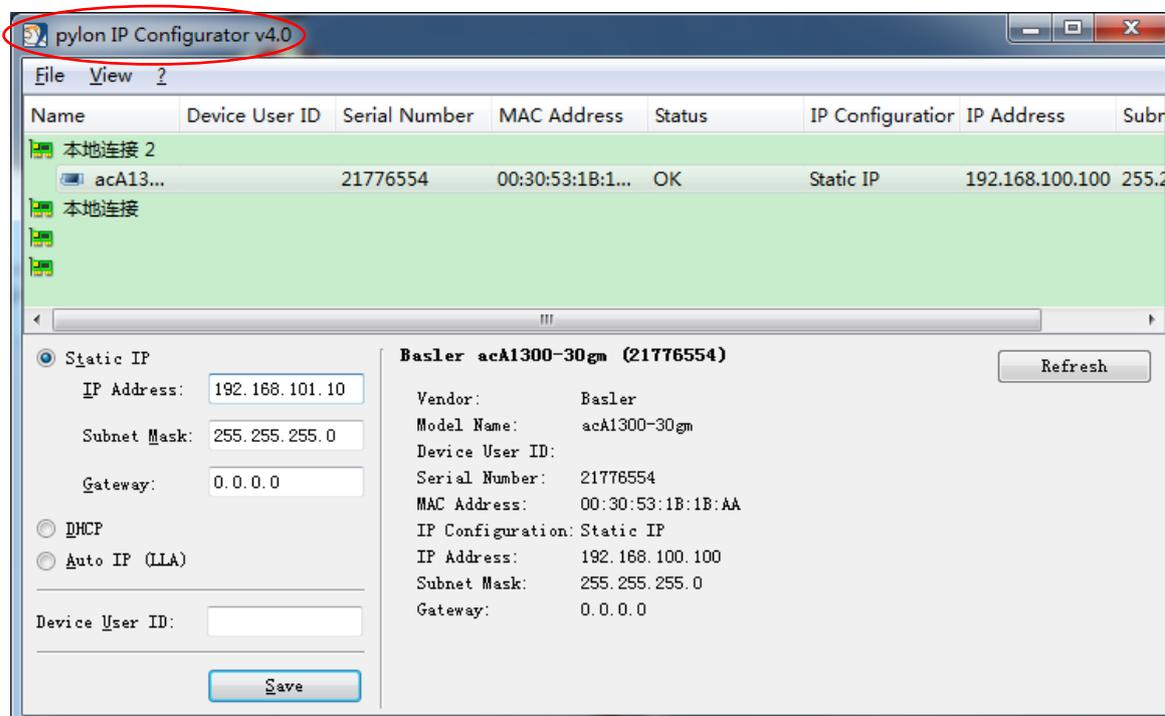

Fig. 13
7. Double-click the "pylon IP Configurator" shortcut on the desktop to open the software; set the camera's IP address as shown in Figure 13.